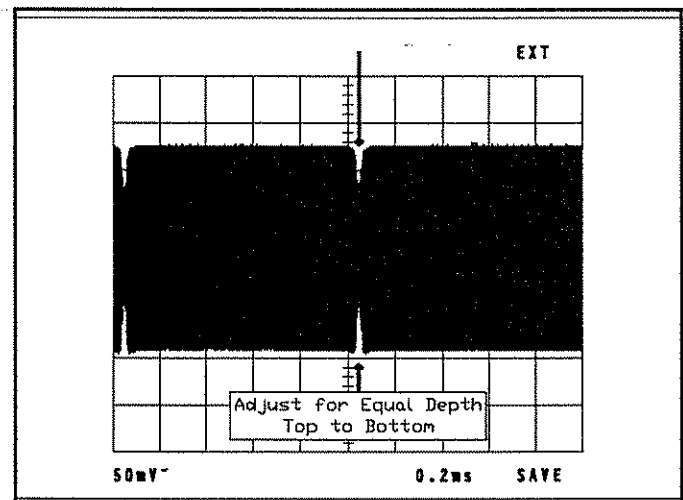

Figure 5-6.
- i. While still observing the Limiter Output at TP8, adjust R124, Limiter Balance, until incidental phase is centered. See Figure 5-6.